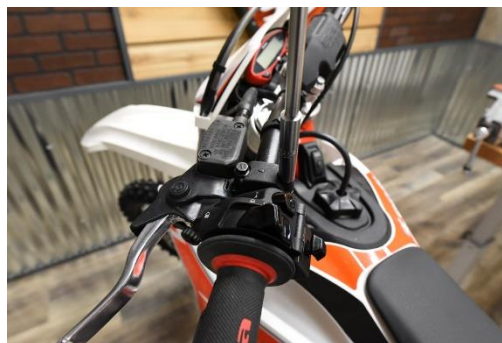

FIG 2
2. Using an 8mm T-Handle or Socket, remove the two mounting bolts and mounting cap. (FIG 2.) (Set the OEM mounting cap in a safe place. In the event you switch to a full wrap deflector, you will need to switch back to it)